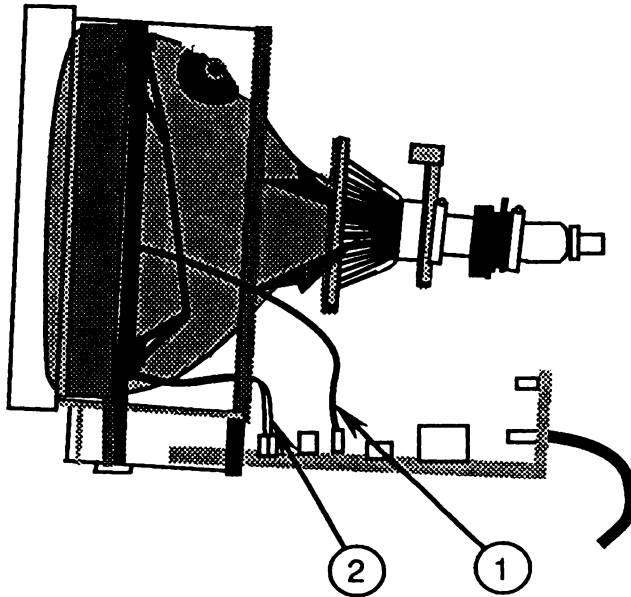

FIGURE 37
7. Disconnect the degaussing coil ground strap (Figure 37, #1) from the connector marked **W** on the main logic PCB.
8. Disconnect the LED cable (Figure 37, #2) from the main logic PCB.